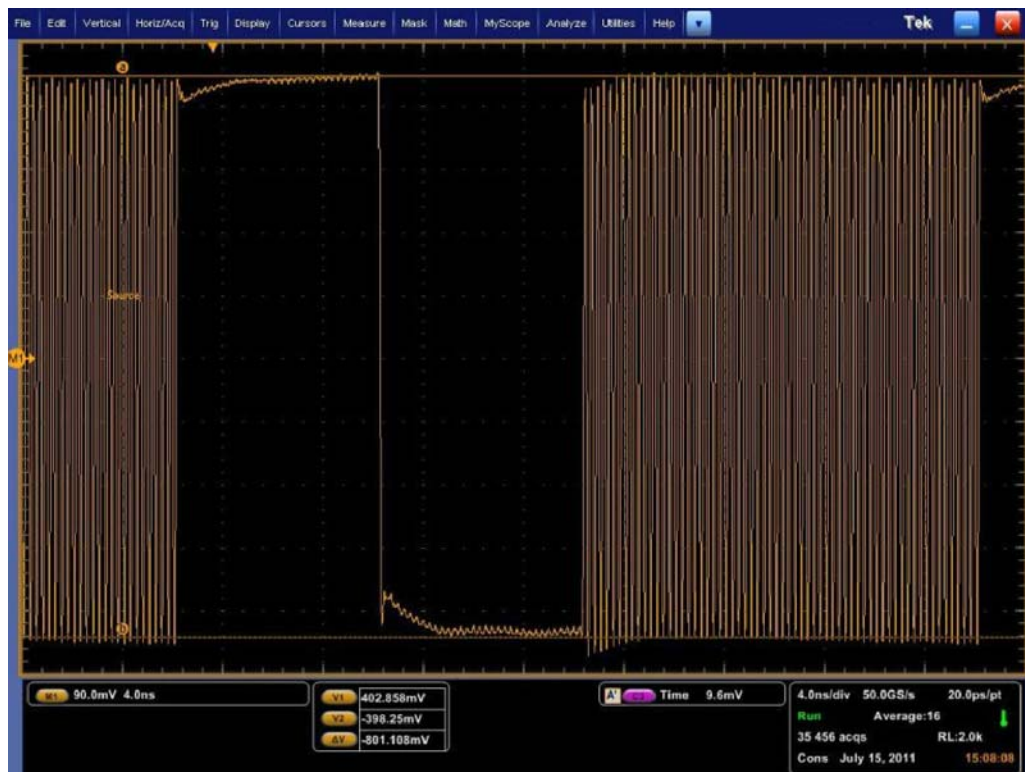

Figure 30: Properly Equalized Low and High Frequency Amplitudes
- f. Figure 30 provides an example of properly displayed Channel 3 and Channel 4 signals.